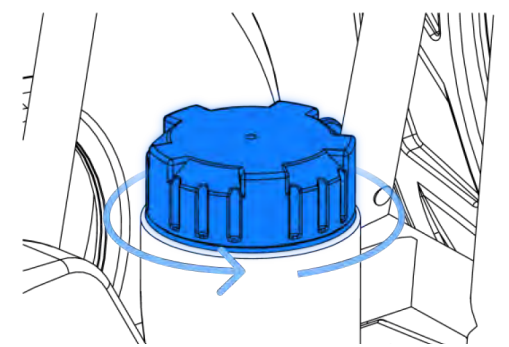

FIGURE 1.5
1. From harness side of the paramotor, unscrew fuel cap anticlockwise (Figure 1.5) - feed siphon pipe into fuel tank. Hold fuel can higher than tank, hold siphon pipe and jiggle up and down to initiate siphon flow.